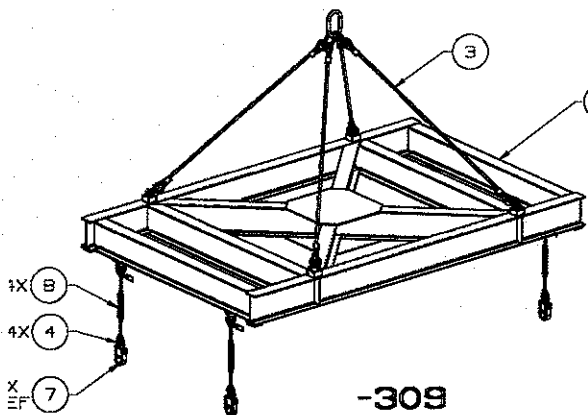

Figure 9
9. Configure the Primary Lifting Fixture (PLF) to USS-02 Lifting Configuration, SEG38117112-309, as shown in Figure 9. Attach the Upper Sling Assembly, SEG38117113-701, item 3, to the Primary Lifting Fixture, SEG38117100-701, item 1, and torque to manufacturer's specification. Attach four (4) Drop Sling Inner B Assembly, SEG38117118-301, item 8 to the Primary Lifting Fixture, SEG38117100-701, item 1. Do not attach the U-Hook Assembly to the Drop Slings.